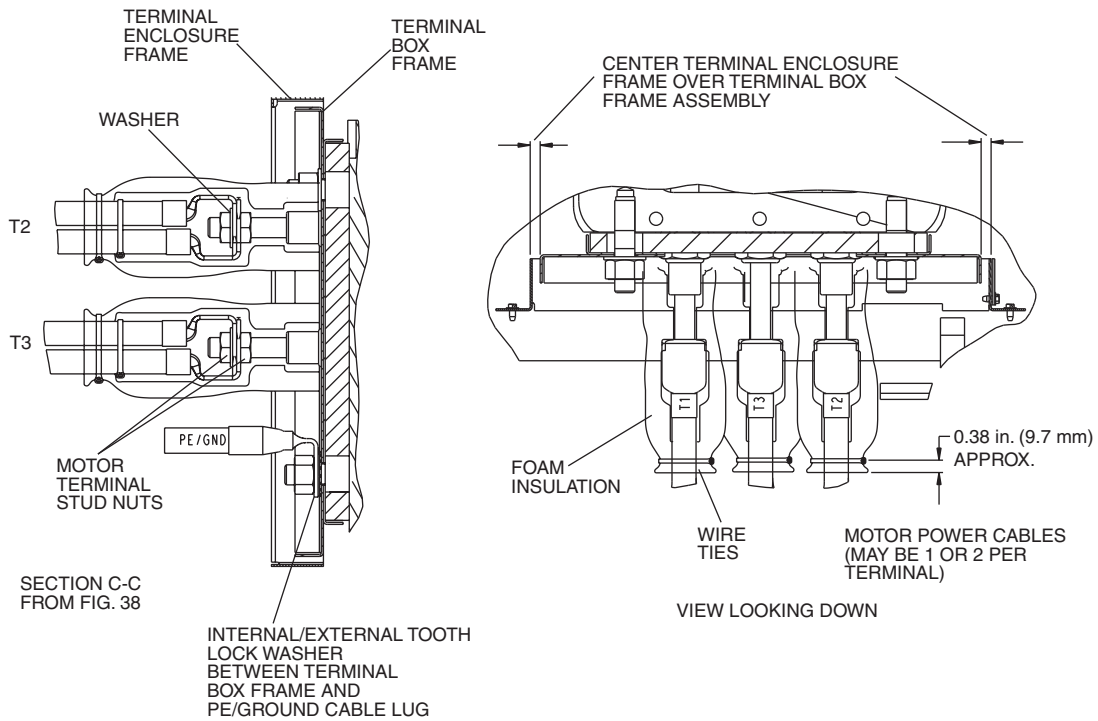

Fig. 40 — Motor Terminal Insulation (Q and R Compressors)
4. There may be 1 or 2 motor power cables per terminal identified as T1, T2 and T3. Position motor end lugs on terminal studs with Belleville washer located against the front terminal lug with the convex side facing toward the front terminal nut. Clinch the 2 cables together with wire ties before tightening terminal nuts. Install front terminal nut finger tight. Hold front terminal nut stationary while tightening rear terminal nut to 45 to 50 ft-lb (61 to 68 N-m). (See Fig. 40 and 41.)
insulation on the motor side. Secure the opposite end of the foam tubing with a wire tie as shown in Fig. 40 and 41.